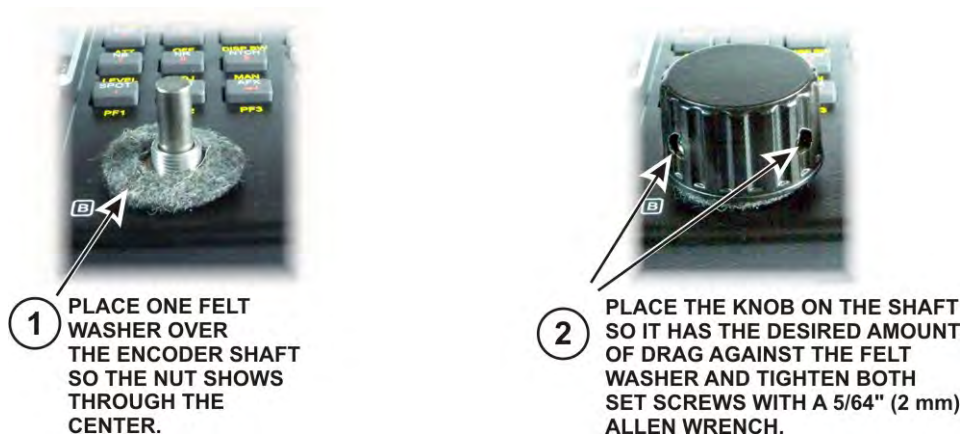

Figure 50. Mounting the VFO B Knob.
□ Mount the last knob on the VFO B encoder shaft to the right (under the pushbutton switches) as shown in Figure 50. Before tightening both set screws, adjust the position of the knob against the felt washer to produce the desired amount of drag for smooth movement without the knob turning too freely.